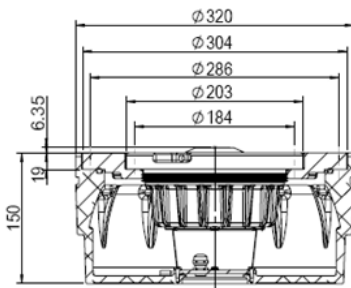

Figure 3-2
- Installed on the 12 inches shallow base with the 12/8” adapter ring (Figure 3-2).